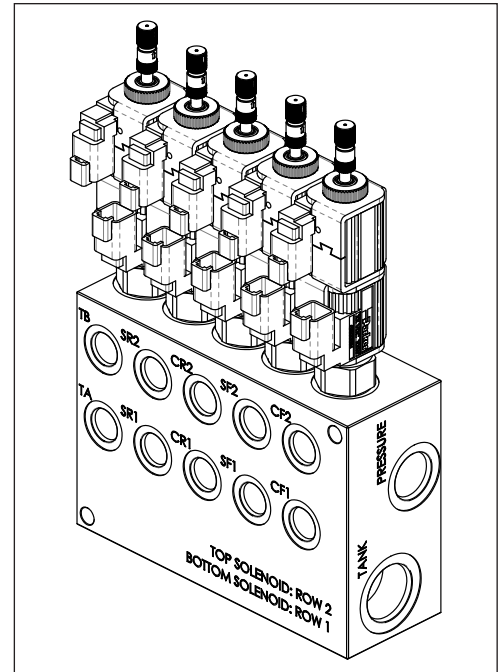

Figure 1 — Outrigger/Tool Valve
2. Locate the solenoid-operated outrigger/tool valve (refer to Figure 1), part number 990297371. It is commonly located inside the pedestal or under the subbase, but it may be in another location. Remove any covers necessary to gain access to the valve.